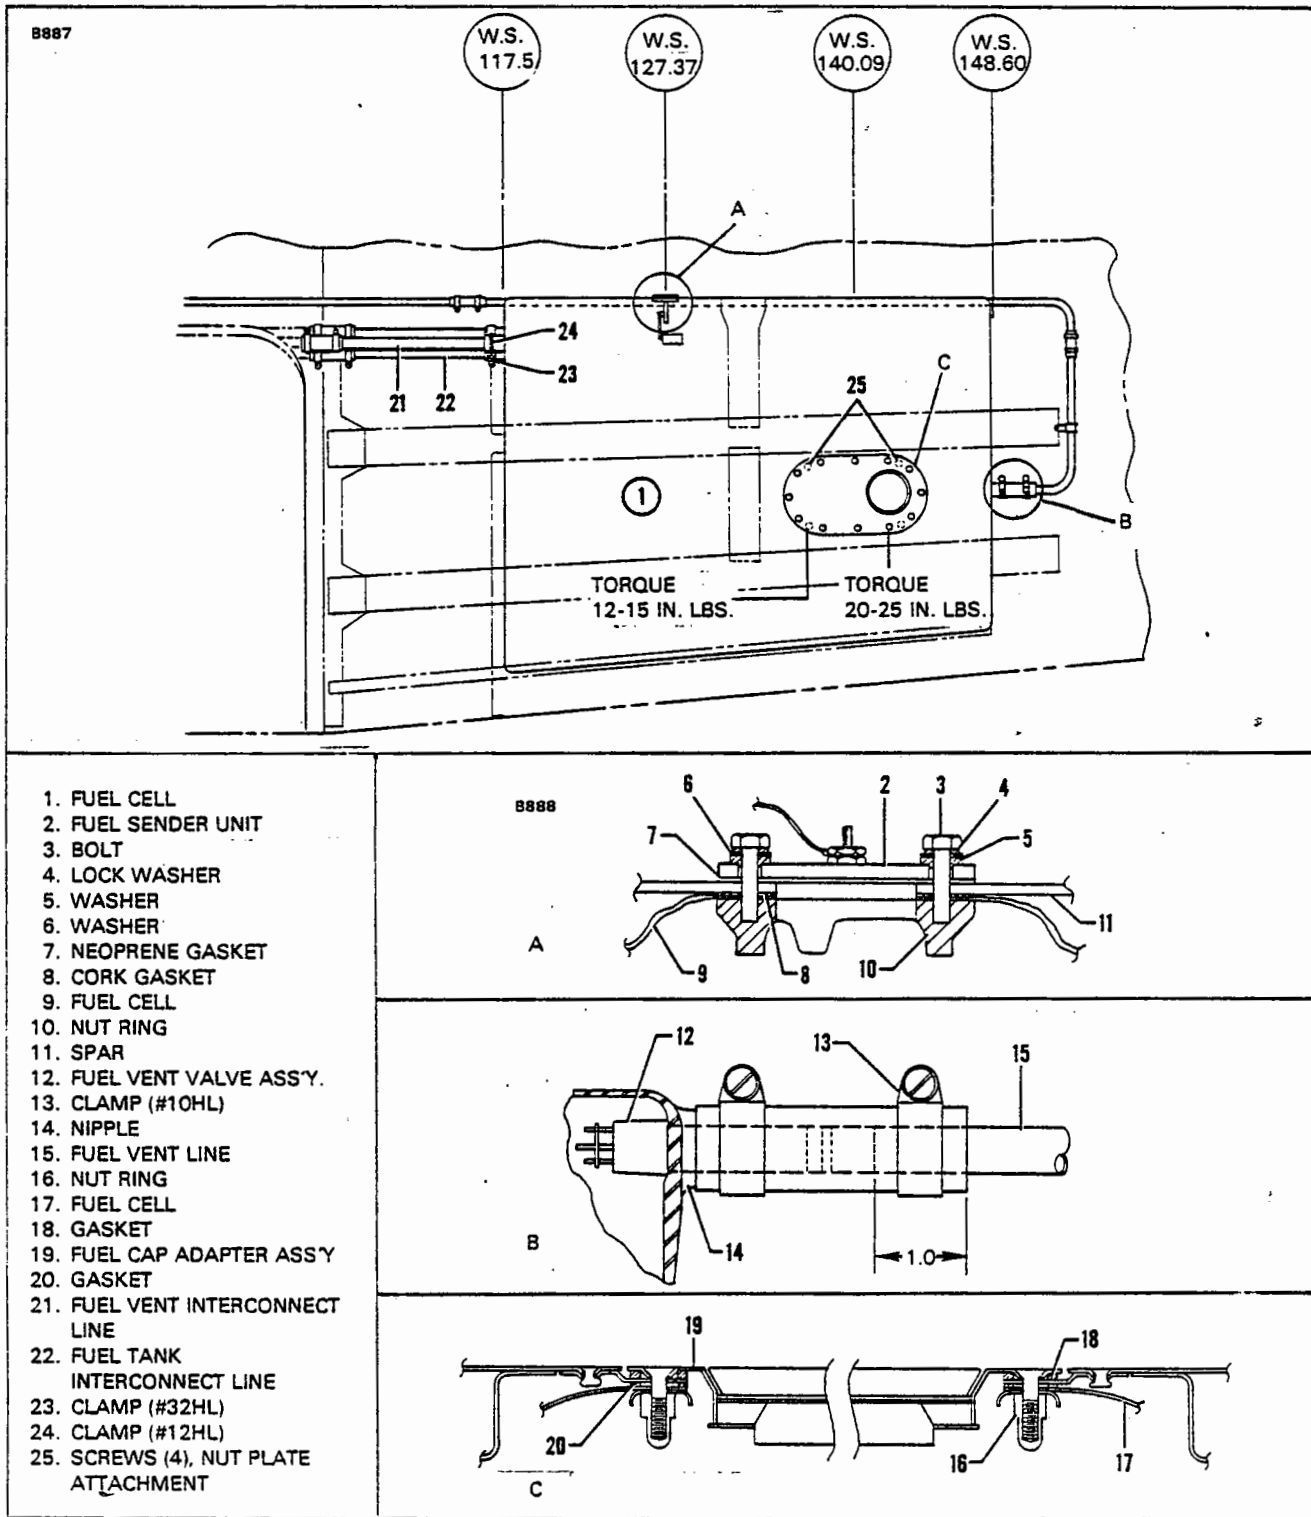

Figure 28-3. Fuel Cell Installation
REMOVAL OF OUTBOARD FUEL CELL. (Refer to Figure 28-3.)
INSTALLATION OF OUTBOARD FUEL CELL. (Refer to Figure 28-3.)
6. Using the appropriate access opening in the bottom of the wing, install the fuel sender unit as shown in Figure 28-3, View "A".